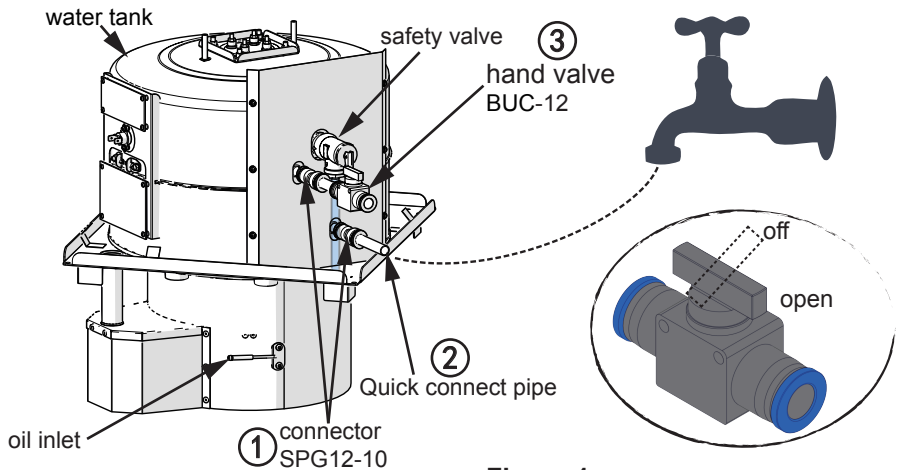

Figure 1
Flushing and sealing test can be carried out according to the method shown in Fig. 1 (Reference method):
i For the parts marked with serial numbers "①、②、③" in Fig. 1, please contact the supplier or our company if necessary.